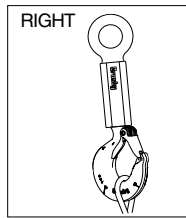

Figure 3
- When placing two (2) sling legs in hooks, make sure the angle between the legs is less than 90° and if the hook or load is tilted, nothing bears against the bottom of this latch (See Figures 3 & 4).